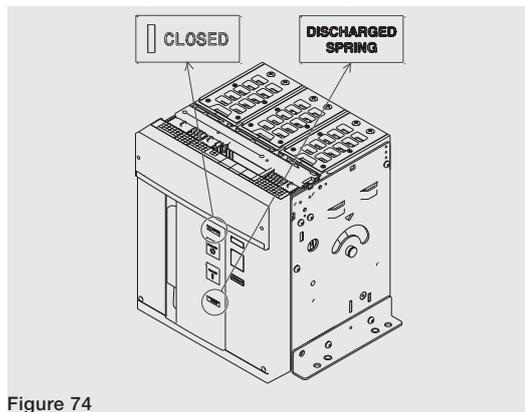

Figure 74
5. Check that the circuit-breaker is closed (open/closed indicator "I - CLOSED"), and check that the springs are discharged (spring signalling device "white - DISCHARGED SPRING") as indicated in Figure 74.